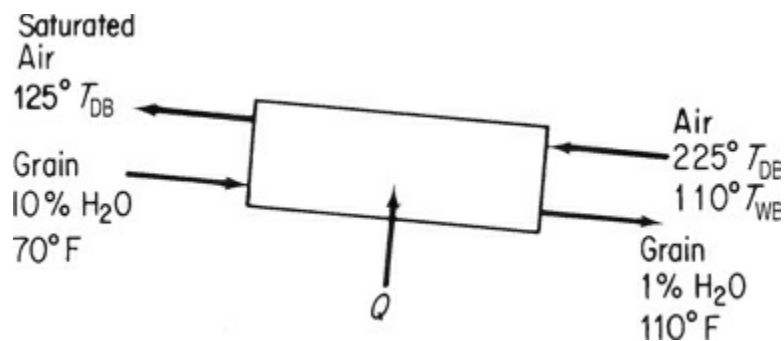

Figure P10.3.1
- **10.3.1** A rotary dryer operating at atmospheric pressure dries 10 tons/day of wet grain at 70°F , from a moisture content of 10% to 1% moisture. The airflow is countercurrent to the flow of grain, enters at 225°F dry-bulb and 110°F wet-bulb temperature, and leaves at 125°F dry-bulb. See Figure P10.3.1. Determine (a) the humidity of the entering and leaving air if the latter is saturated, (b) the water removal in pounds per hour, (c) the daily product output in pounds per day, (d) the heat input to the dryer.